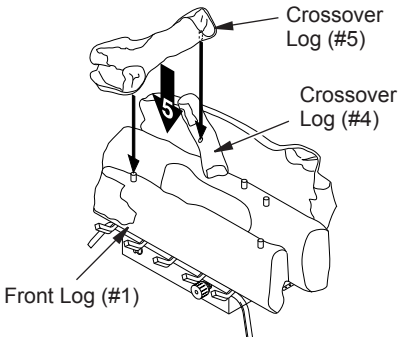

Figure 23 - Installing Crossover Log #5 (CCL3930PTB/NTB Shown)
- For **CCL3924PTA/NTA** and **CCL3930PTB/NTB** Only: Locate pin and hole on the bottom of crossover log (#5). Slide the pin into the hole located in crossover log (#4). Slide the hole onto the pin on front log (#1). See Figure 23.